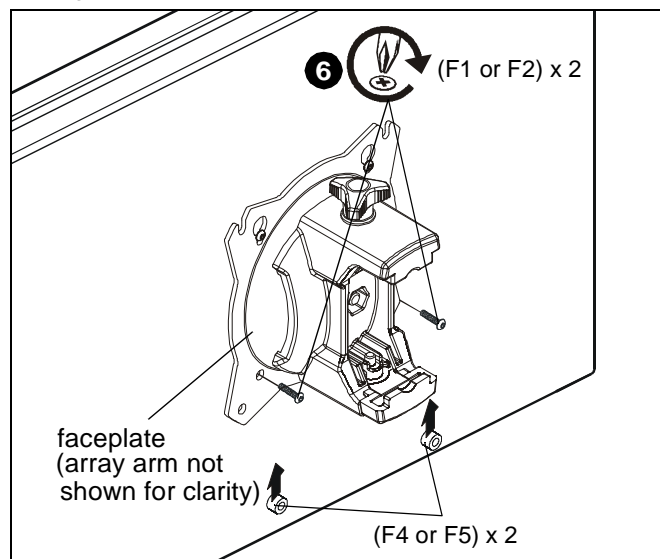

Figure 10
- Slide two remaining selected spacers (F4 or F5) in between faceplate and display, positioning them over the *lower* two mounting holes. (See Figure 10)
- Install two remaining selected screws (F1 or F2) through *lower* two mounting holes on faceplate, selected spacers (F4 or F5) into the *lower* mounting holes on the display. (See Figure 10)